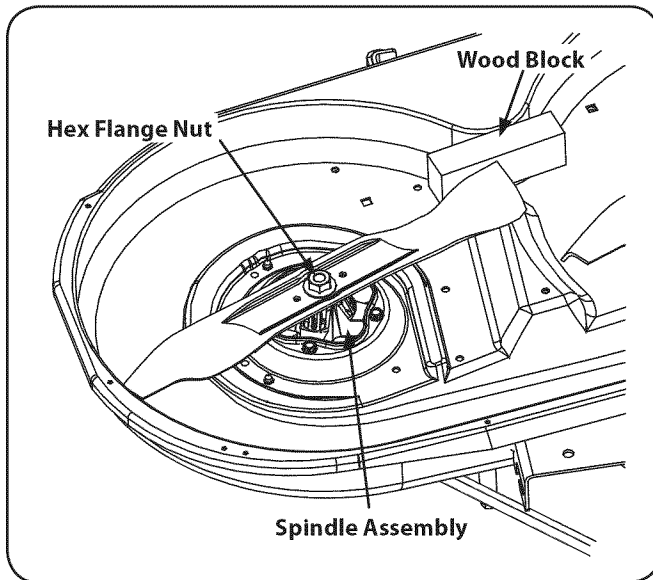

Figure 7-7
- Use a $\frac{1}{16}$ " wrench to hold the hex nut on top of the spindle assembly when loosening the hex nut securing the blade. A block of wood may be placed between the deck housing and the cutting edge of the blade to help in breaking loose the hex nut securing the blade. See Fig. 7-7.